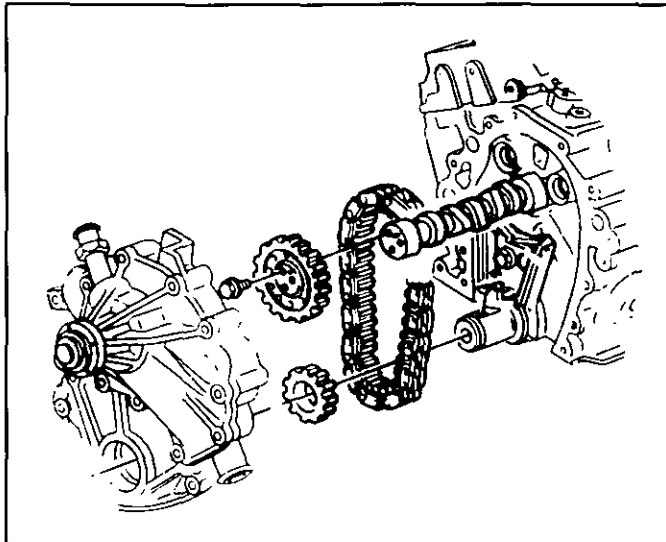

Figure 19 Timing Chain and Sprockets
3. Camshaft sprocket and chain (Figure 19).